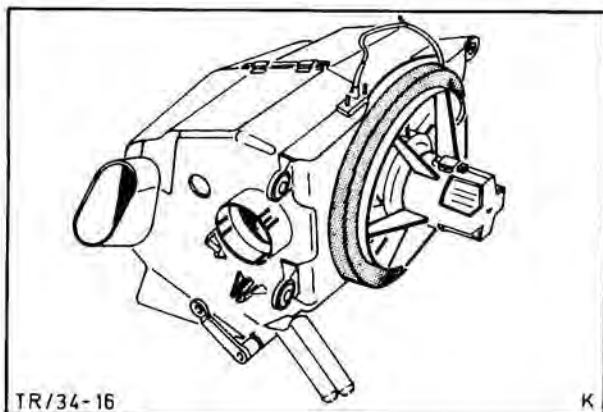
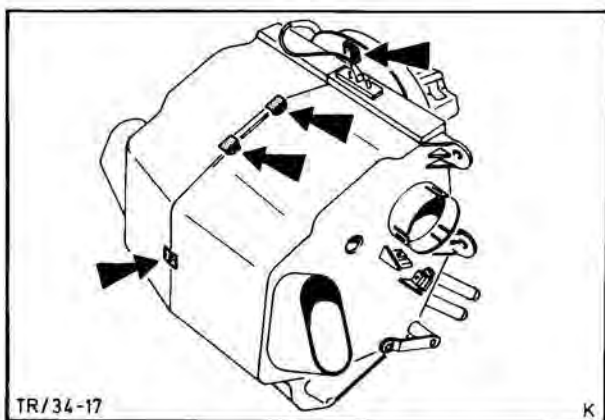

Fig. 19. Remove foam gasket from blower flange
Fig. 20. Separate heater assembly halves
1. Remove foam gasket from blower flange, Fig. 19, and separate heater assembly halves (10 clips), Fig. 20.